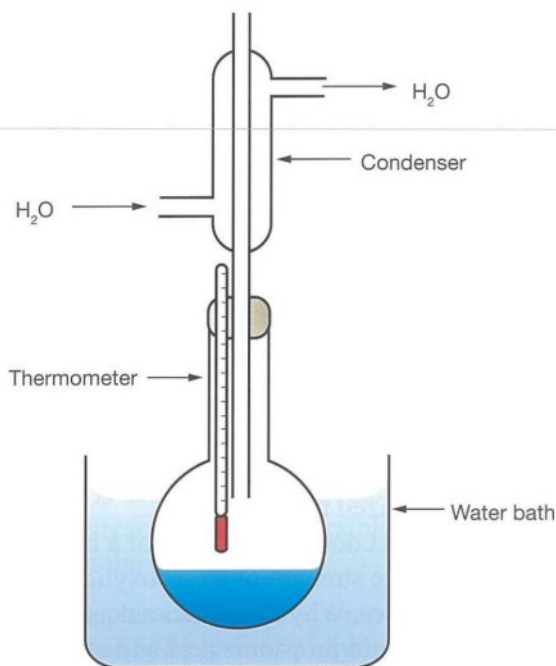

Figure 44.1 Esterification.
- In Figure 44.1, why is the condenser connected so that water enters the bottom of the condenser jacket and exits from the top?